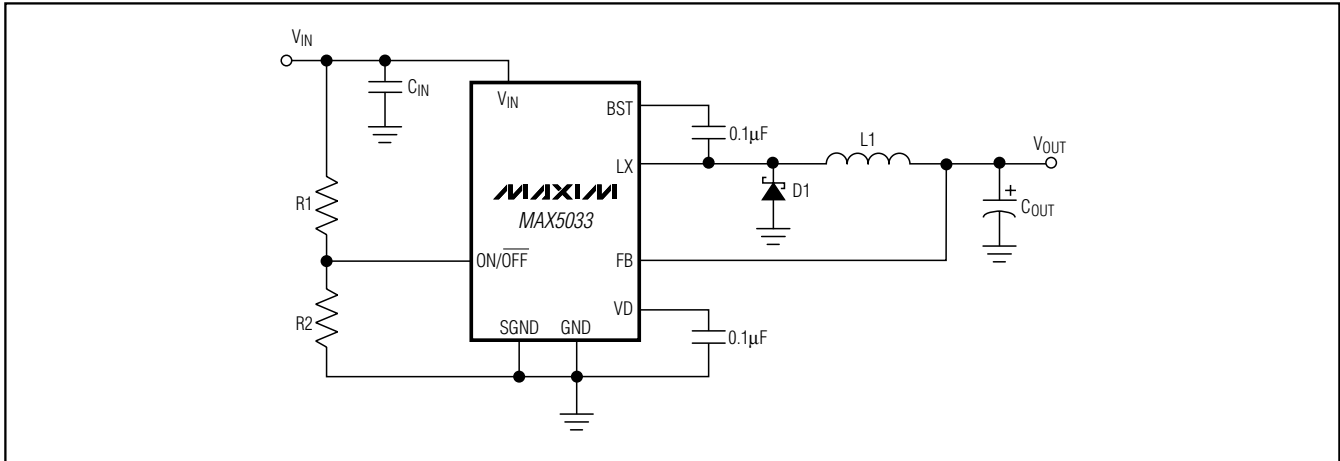

Figure 2. Fixed Output Voltages
**Table 2. Typical External Components Selection (Circuit of Figure 2)**
**Table 2. Typical External Components Selection (Circuit of Figure 2) (continued)**